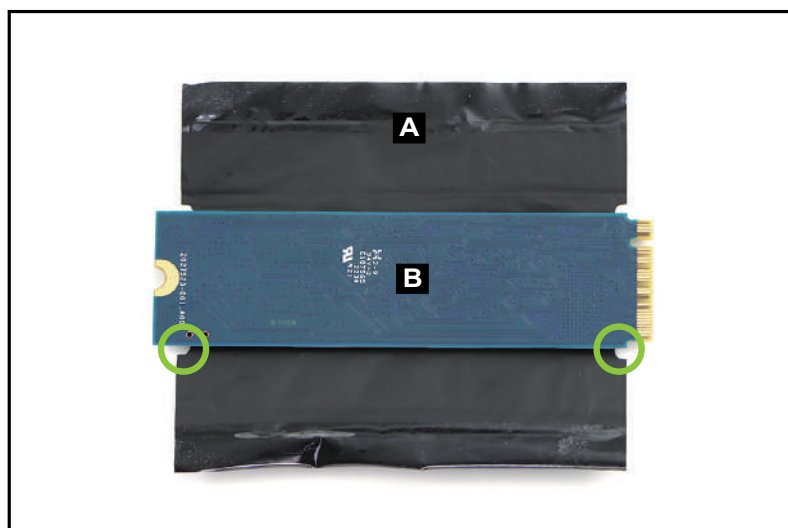

Figure 3-152. Replacing the SSD Module
1. Place the SSD module (B) on the center-top of the mylar (A). Make sure the SSD module is aligned with the notches (marked with green circles) as shown in Figure 3-152.